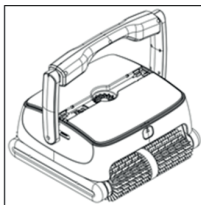

Figure 1
- Press the opening button on the front of the cleaner (see Figure 1)